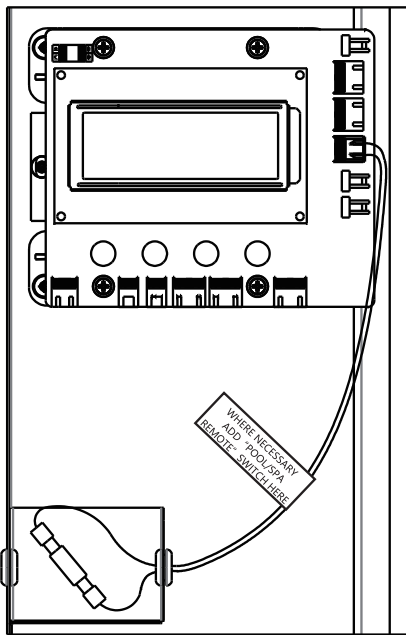

Figure 7. Supplied Wires for the Remote Interface Harness
5. On the "Remote Interface Harness", the supplied two wires provide power out to either a toggle switch or the switch contacts of a third party remote. See Figure 7.